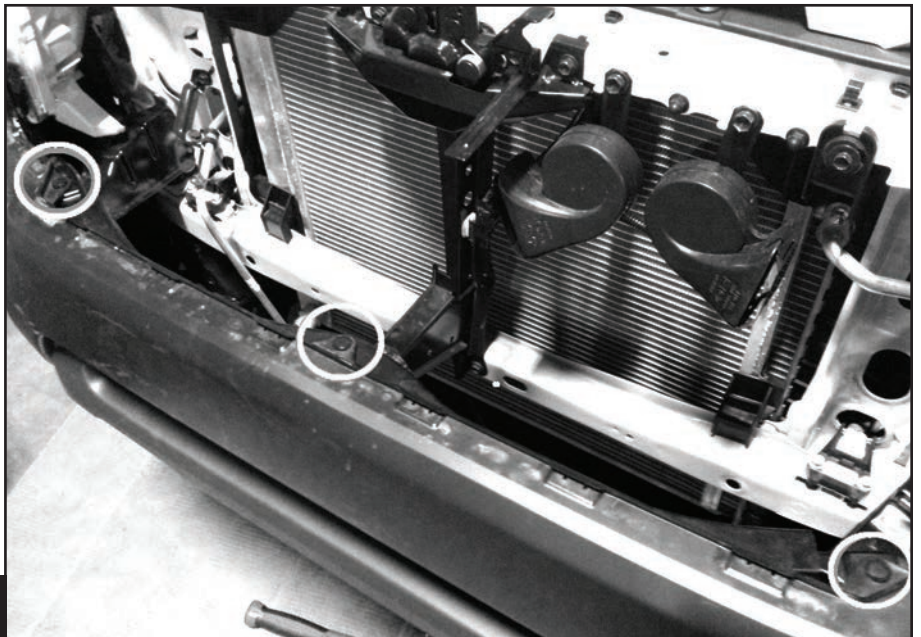

Fig 3
3. Remove (3) clips from top of bumper cover and discard (**Fig 3**).